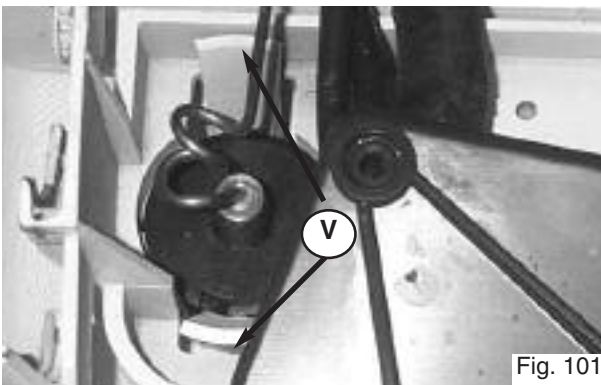

Fig. 101
2. Remove the pressure gauge by releasing the two clips **V** and pulling the pressure gauge out. (see Fig. 101)